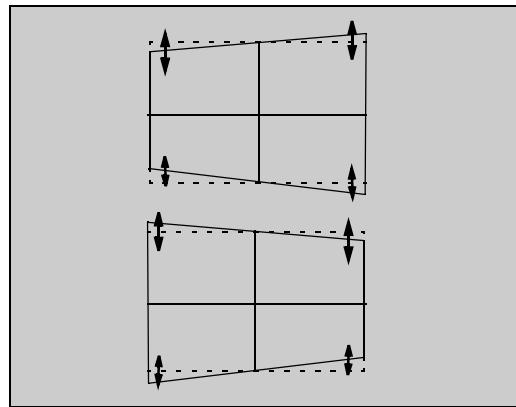

Figure 42. KEY mode adjustment
- Adjust by pressing CH up-down (See Figure 42)
34. Adjust KEY (See Figure 42)